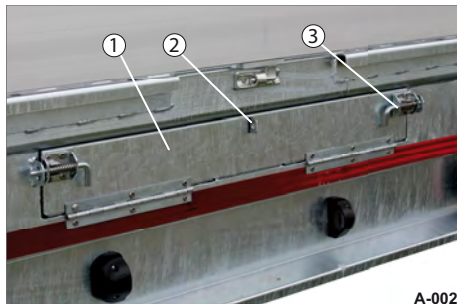

Fig. 5 Ramp plank bay
- ▶ Fold the flap (Fig. 5/1) of the ramp plank bay down.